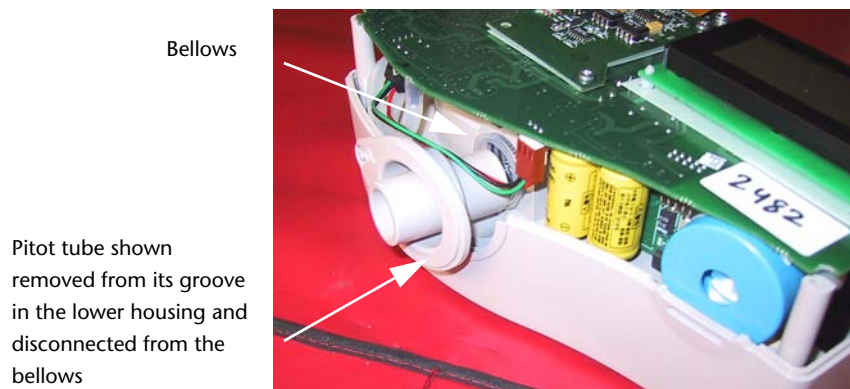

Figure 5-6. Removing pitot tube from enclosure groove and bellows
- 2 Gently lift the pitot tube, ITEM 14, out of its groove in the lower housing and slide it away from the bellows, ITEM 13. Be careful not to let the bellows pull away from the blower assembly, ITEM 7 (Figure 5-6). Do not disconnect any of the silicone tubing from the pitot tube, flow sensor, or pressure transducer.